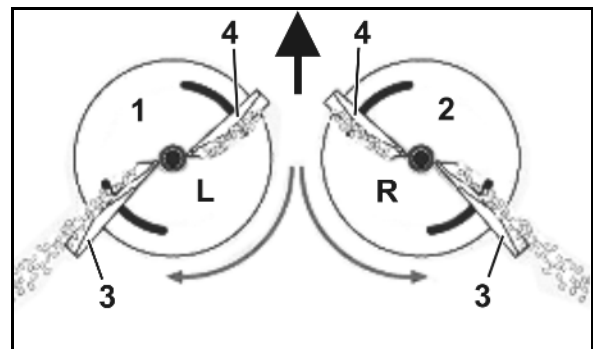

Fig. 37
- Left spreading disc (Fig. 37/1) with **L** mark.
- Right spreading disc (Fig. 37/2) with **R** mark.
- **Long** (Fig. 37/3) – Adjustment scale with values from 35 to 55.
- **Short** (Fig. 37/4) – Adjustment scale with values from 5 to 28.